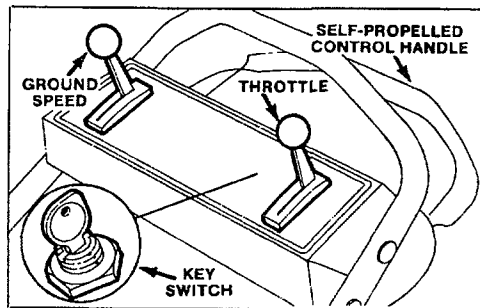
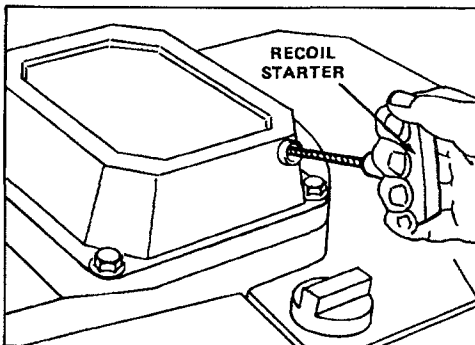

Figure 9
Figure 10
1. **CONTROLS** — Key switch (model 20624) throttle, ground speed control and blade/self-propelled control bar are on upper handle (Fig. 9). Fingertip starter is on top of engine.
2. Push high tension wire onto spark plug and move ground speed control to "N" (Fig. 9).
3. **KEY-ELECTRIC® STARTING (MODEL 20624)**—Move throttle (Fig. 9) to CHOKE. Turn key (Fig. 9) to START and release when engine begins running. Regulate throttle as desired. If battery is discharged, engine can be started with the recoil starter (Fig. 10).
4. **FINGERTIP STARTING (MODEL 20622)**—Move throttle to CHOKE. Pull engine mounted fingertip starter out until positive engagement results; then pull vigorously to start the engine (Fig. 10). Regulate throttle as desired when engine starts. When temperature is near 40°F, a few extra pulls may be required because the engine needs priming.
7. **STOPPING (Fig. 9)** — Release control bar to stop blade and traction drive. Move ground speed control to "N". To stop engine, move throttle to OFF. Remove key from switch or pull wire off spark plug if mower is unattended or not used.